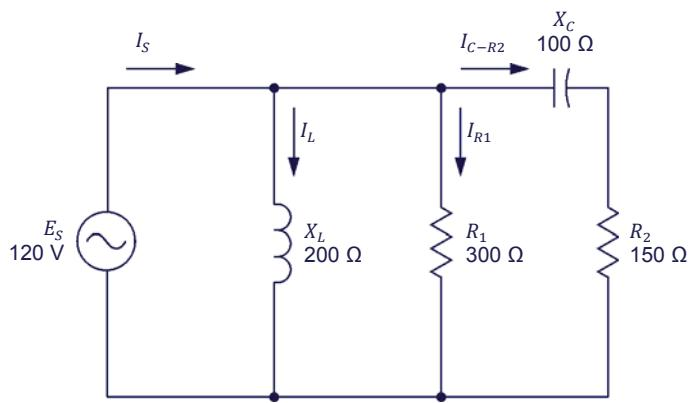

Figure 4-12. AC circuit containing two resistors, an inductor, and a capacitor.
4. Calculate the active power  $P_{R2}$  dissipated in the second resistor ( $R_2$ ) in the circuit of Figure 4-12.
5. Calculate the apparent power  $S_{C-R2}$  in the capacitor and the second resistor ( $R_2$ ) in the circuit of Figure 4-12.
6. Calculate the active power  $P_{R1}$  dissipated in the first resistor ( $R_1$ ) in the circuit of Figure 4-12.
7. Calculate the total reactive power  $Q$  in the circuit of Figure 4-12.
8. Calculate the apparent power  $S$  in the circuit of Figure 4-12.
9. Calculate the source current  $I_S$  in the circuit of Figure 4-12.
10. Calculate the power factor  $PF$  of the circuit shown in Figure 4-12.